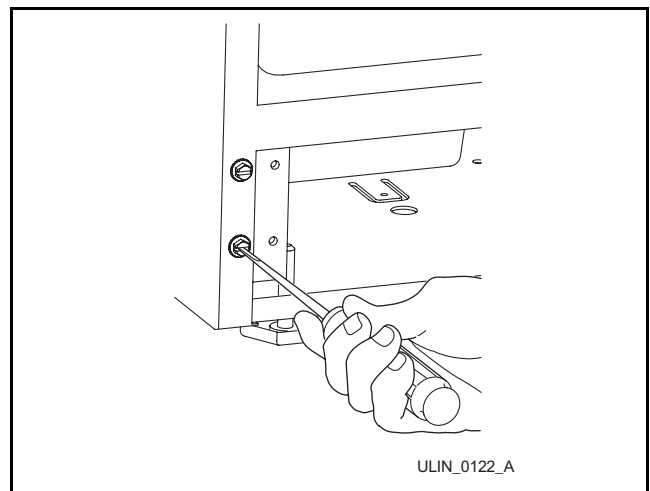

Figure 17
5. Remove screws on opposite side of cabinet (**Figure 17**).